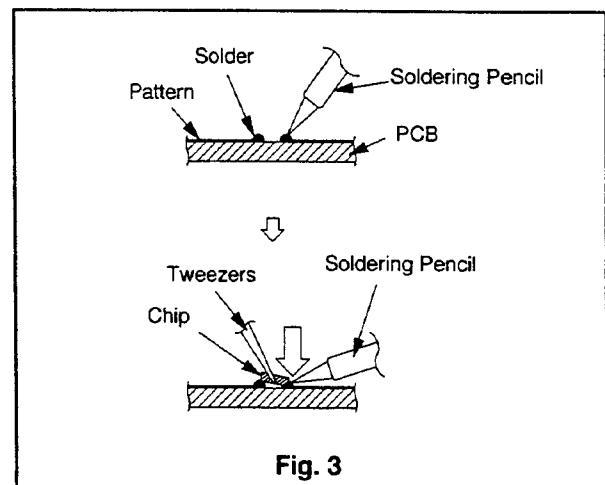

Fig. 3
- B. Press the part downward with tweezers and apply the soldering pencil as shown in Fig. 3.